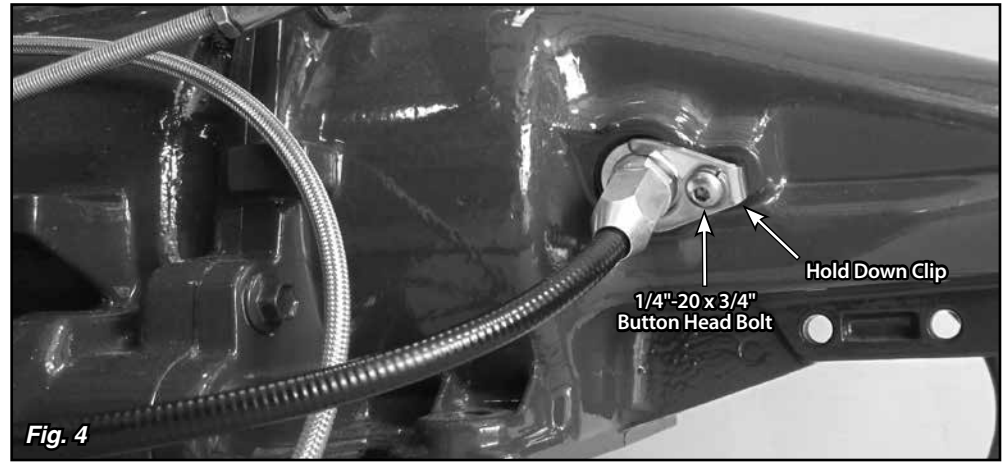

Fig. 4
Step 6: Lubricate the o-ring with a light coat of the oil or fluid that is correct for your transmission, and install the trans end fitting into the transmission. Install the hold down clip using the provided 1/4"-20 x 3/4" button head bolt and lock washer. **Fig. 4**